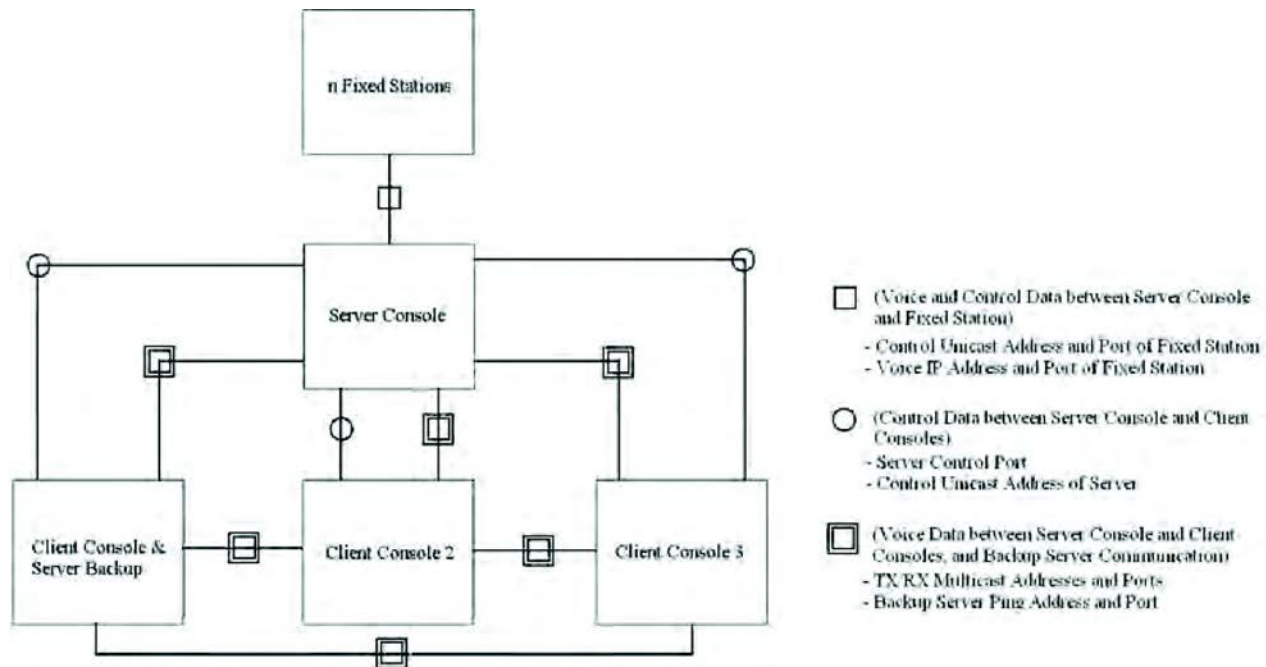

FIGURE 205. Server/Client Console Configuration
If more than one (1) console operator is controlling the fixed stations, a Client/Server configuration should be used. See Figure 205. One (1) console is setup as a server, two (2) consoles are setup as clients and one (1) console is setup as a client console providing back up to the main server console.